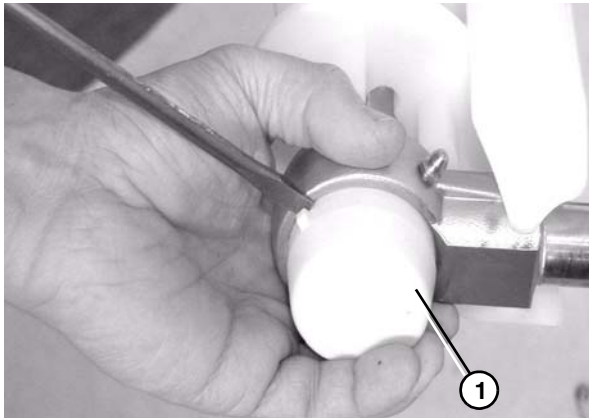

Figure 67
3. Remove the bearing cover (Figure 67, item 1).
6. Attach the bearing covers. Reference (Figure 67).